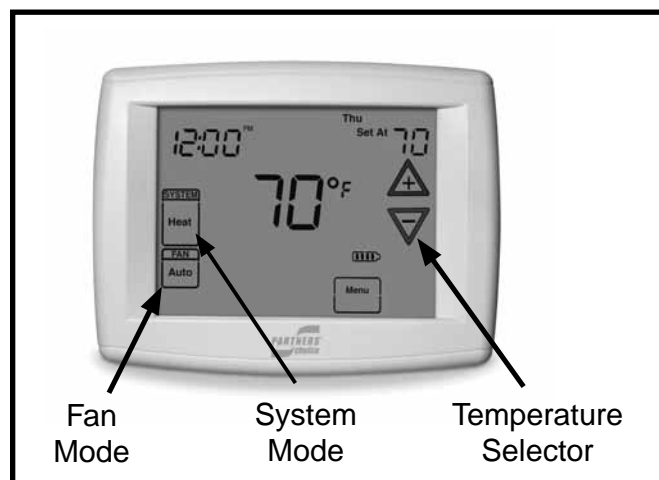

Figure 1. Digital Thermostat
1. Set the thermostat's system mode to COOL or AUTO and change the fan mode to AUTO. See Figure 1
1. Set the thermostat's system mode to HEAT or AUTO and change the fan mode to AUTO. See Figure 1.
1. Set the thermostat system switch to AUTO and the thermostat fan switch to AUTO. See Figure 1.
Set the thermostat fan mode to ON (Figure 1). The indoor blower starts immediately, and will run continually until the fan mode is reset to AUTO.
Change the thermostat's system mode to OFF and the fan mode to AUTO. See Figure 1. **NOTE:** The system will not operate, regardless of the temperature selector setting.